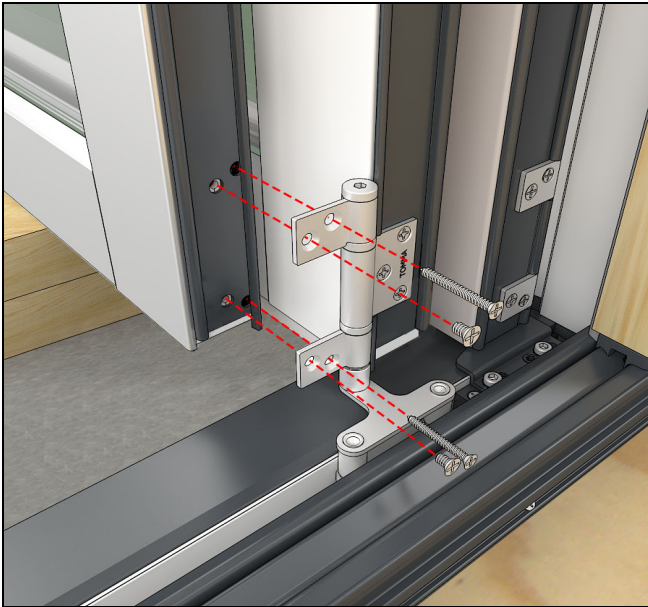

Figure 45
10. Locate the next panel and, using a support block, fasten to the previous panel. See Figure 44 and Figure 45.